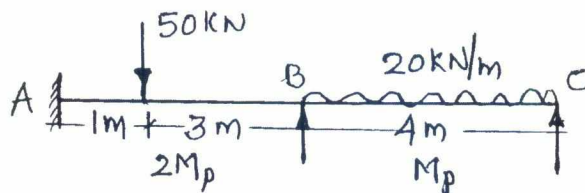

Fig. Q4 (b)
b. Analyze the continuous beam shown in Fig Q4 (b). Calculate maximum plastic moment. Take load factor as 1.5. (14 Marks)